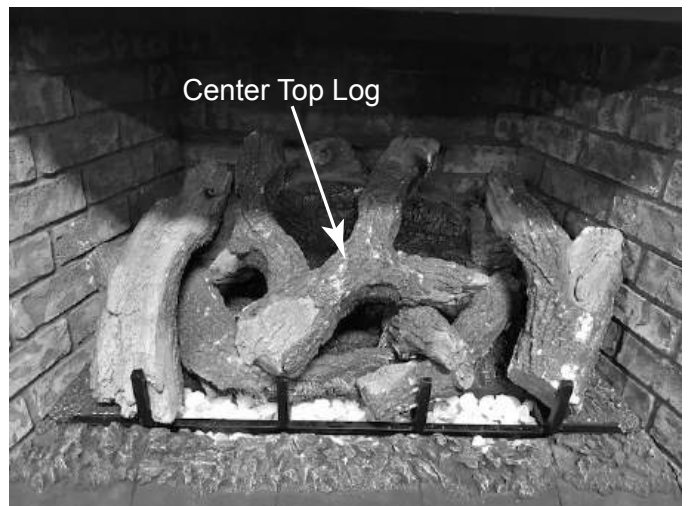

Figure 11.21
- Locate the center top log by placing the notch on bottom of log on to the locating point on top of rear log. Notch on front of log will fit on locating point on top of left middle log. Right part of log should rest on top of right front log. See Figure 11.21.